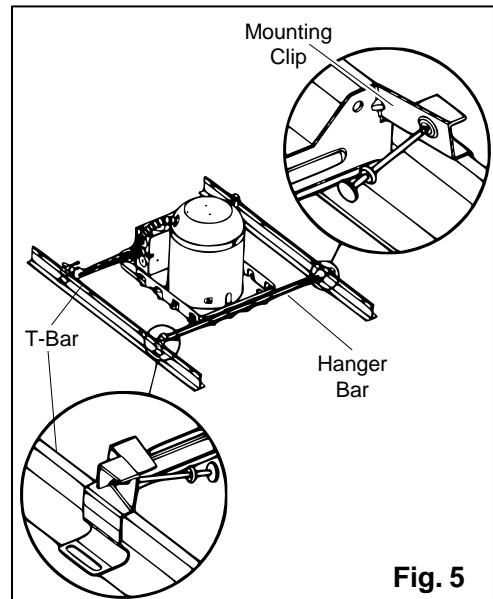
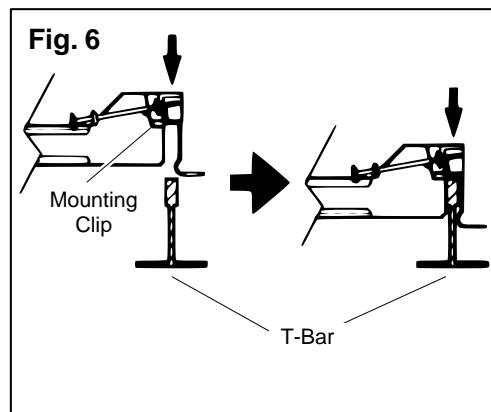

Fig. 5
Fig. 6
3. Place the housing/hanger bar assembly onto the ceiling tile into the newly created hole. Adjust the width of both hanger bars to the distance between the two T-bars, aligning each mounting clip with the top of its corresponding T-bar. Press down on all mounting clips until they snap onto the T-bar. (**FIG. 5 and FIG. 6**) **NOTE:** Holes are provided on the mounting clips that can be used to secure the hanger bars to the T-bar. Parts (i.e. screws, hex nuts) can be purchased separately for this purpose.